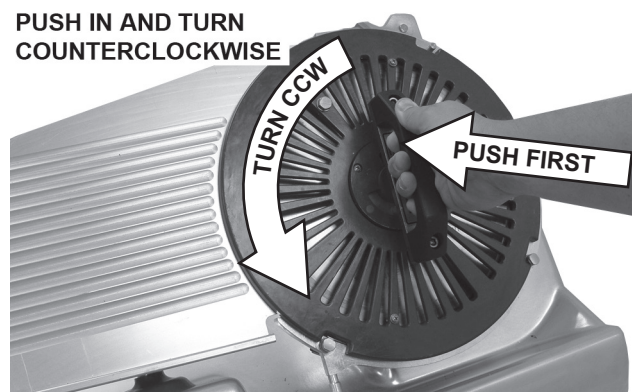

Fig. 14
- Push the Handle firmly, all the way into the hub. Then, turn the Handle counterclockwise until it stops (Fig. 14). Some resistance may be experienced when turning.
- Lift Knife and Tool up and out (Fig. 14).